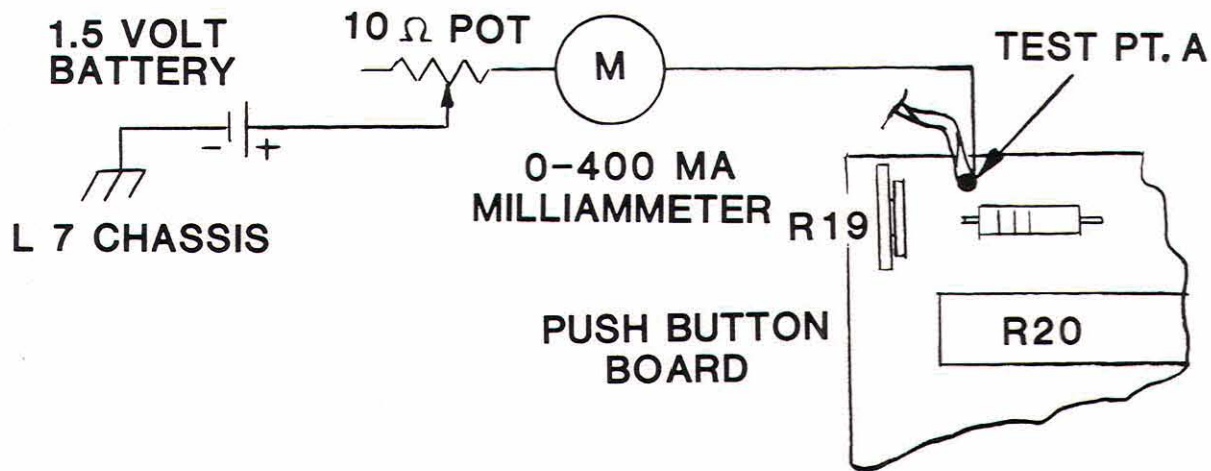

Fig. 5-3 Connections for Grid Current Meter Calibration
- 3. Make the connections show in figure 5-3.